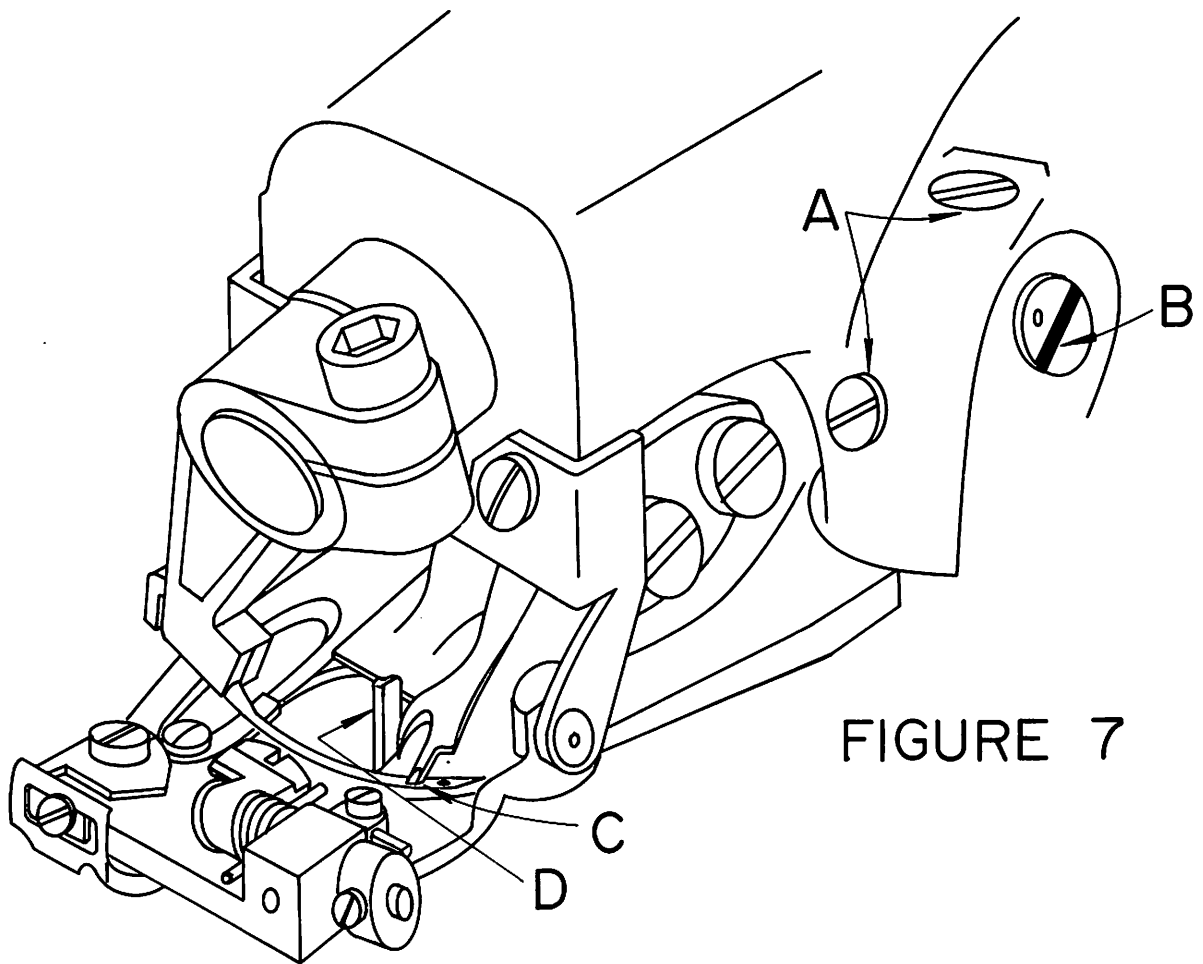

FIGURE 7
2. Any time a looper is moved or changed, recheck the looper timing and reset if necessary. Proper looper timing is absolutely essential for correct stitch formation. As described in detail below, a properly timed looper will pass over the needle in the correct position to pick up the loop, and also clear the chain-off pin, feeder, looper slot, and needle. The first check point for timing the looper is at the position where the looper picks the thread loop off the needle during the needle return stroke. Referring to Figure 7, (Point "C"), the long prong of the looper should pass over and just clear the scarf of the needle, approximately $3/32$ " (2.4mm) behind the end of the needle eye. At the same time, the short prong of the looper should pass over the needle with about $1/64$ " (.406mm) clearance, and must be so set that it also clears the chain-off pin (item "D" in Figure 7).
5. If, after completing the above adjustments, it is found that the looper is either too low or too high, it will be necessary to adjust the eccentric stud. First loosen the two set screws (item "A" in Figure 7). Place a wide blade screwdriver in the slot of the eccentric stud (item "B" in Figure 7) and, using a slight turning motion, raise or lower the looper as required. Once the proper height is established, check to see whether the looper must be moved to the left or to the right prior to retightening the eccentric block set screws. If such a movement is required, it may be obtained by lightly tapping the eccentric block in the correct direction with the handle of a screwdriver.
1. After considerable service, it may become necessary to replace the chain off pin, (Item "D" in Figure 7).